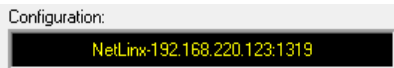

FIG. 23 NetLinX Studio - Communication Settings dialog (Configuration field indicating the selected IP Address)
- Click **OK** to save your newly entered information and close the *Communication Settings* dialog and return to the *Master Communication Settings* dialog. Note the selected IP address is indicated in the *Configuration* field (FIG. 23):